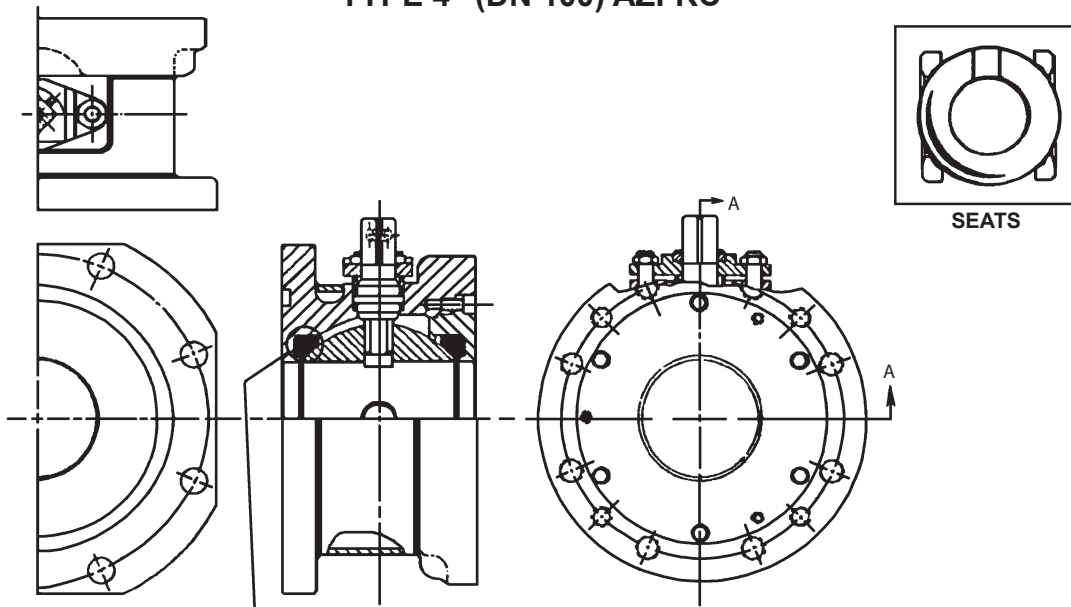

Figure 2
1. Slide the first valve seat (5) into the body (1) to below the stem opening and tilt it into place so that the bevel surface (**Figure 2**) will be adjacent to the ball (3).
2. Place the ball (3) into the valve in the closed position. Insert the stem (4) as a temporary means of holding the ball.
3. Insert the second seat (5) with the insert (2) again so the bevel surface will be adjacent to the ball. Insert the body seal (6) into the machined sealing area of the body with the chamfer on the I.D. facing away from the ball.
4. Adjust the jacking screws (26) so they do not protrude through the insert or above the insert face.
5. Fit the insert (2) into the valve body, aligning the mounting holes in the insert with threaded holes in the body.
6. Compress the insert into the body with the body insert cap screws (20) by tightening them evenly and alternately until the insert is bottomed and all cap screws are tight.
7. Remove the stem (4) and insert a stem seal (7) with the chamfer on the I.D. facing up. Place the emergency stem seal (13) on top of the stem seal. Lubricate the stem with a compatible lubricant and insert it into the stem hole. The stem should be tapped into place gently to avoid cutting the seal. **NOTE:** With 6" (DN 150) valves, make sure the stem is inserted so that the slot in the top of the stem points in the direction of the ball port.
8. Slide the second stem seal (7) over the stem. The chamfer on the I.D. of this stem seal should also be facing down.
9. Place the compression ring (18) on the stem. Fit the bonnet plate over the stem and the two bonnet studs.
10. Tighten the bonnet nuts (10) evenly until they contact the bonnet plate (9). Then tighten another 3/4 of a turn.
11. Place the indicator stop (12) over the stem, positioning it so that counterclockwise rotation will open the valve. For valves with "FO" option, the indicator stop (12) is marked with "FO". When placing indicator stop over stem, "FO" marking shall be face up. At this point, the stem with the indicator stop mounted and located between the stop bushing is positioned so clockwise rotation of the stem will open the valve.